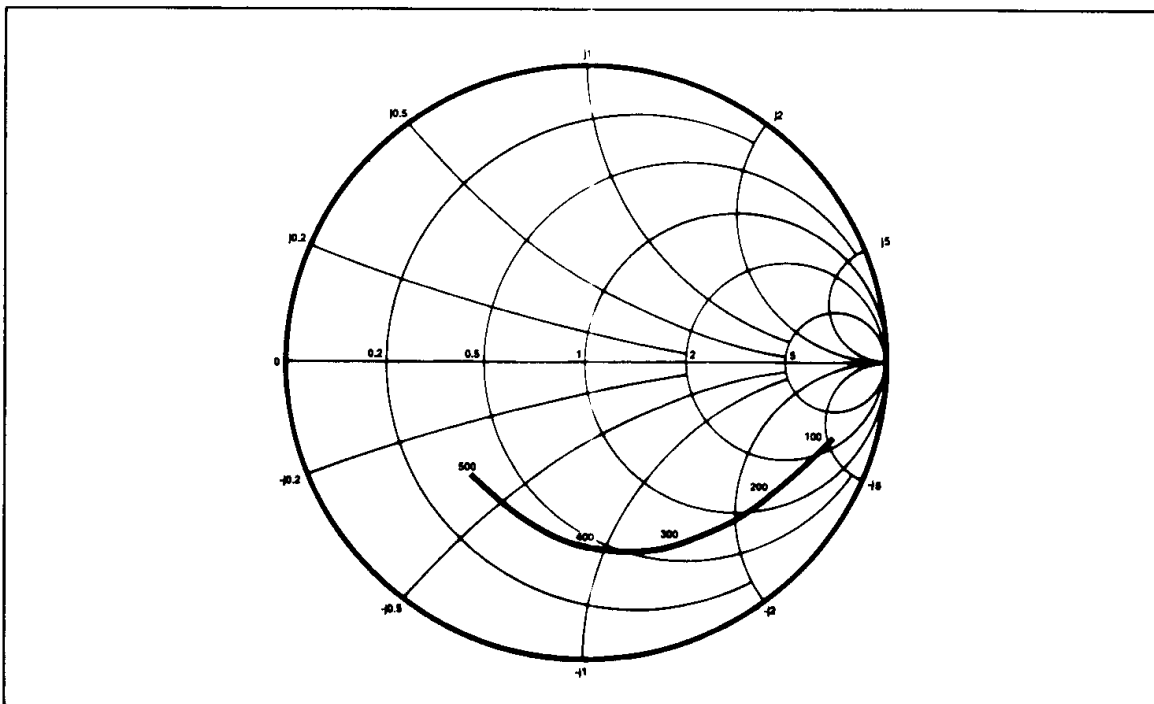

Fig.4 Typical input impedance. Test conditions: supply voltage 5.0V, ambient temperature  $25^{\circ}C$ , frequencies in MHz, impedances normalised to 50 ohms.
9. The input impedance of SP8906 is a function of frequency. See Fig. 4.